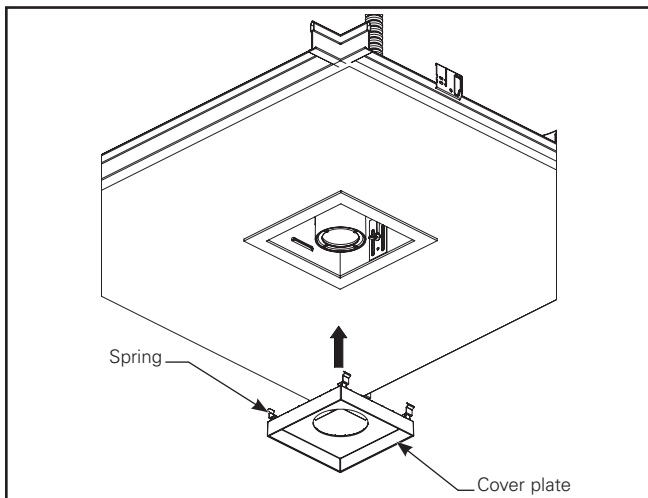

Figure 1.16.
7. Install Cover plate (baffle plate) into the housing. Push plate assembly up through trim while installing. Compress spring inwards so that plate assembly can push up into housing. (Figure 1.16)